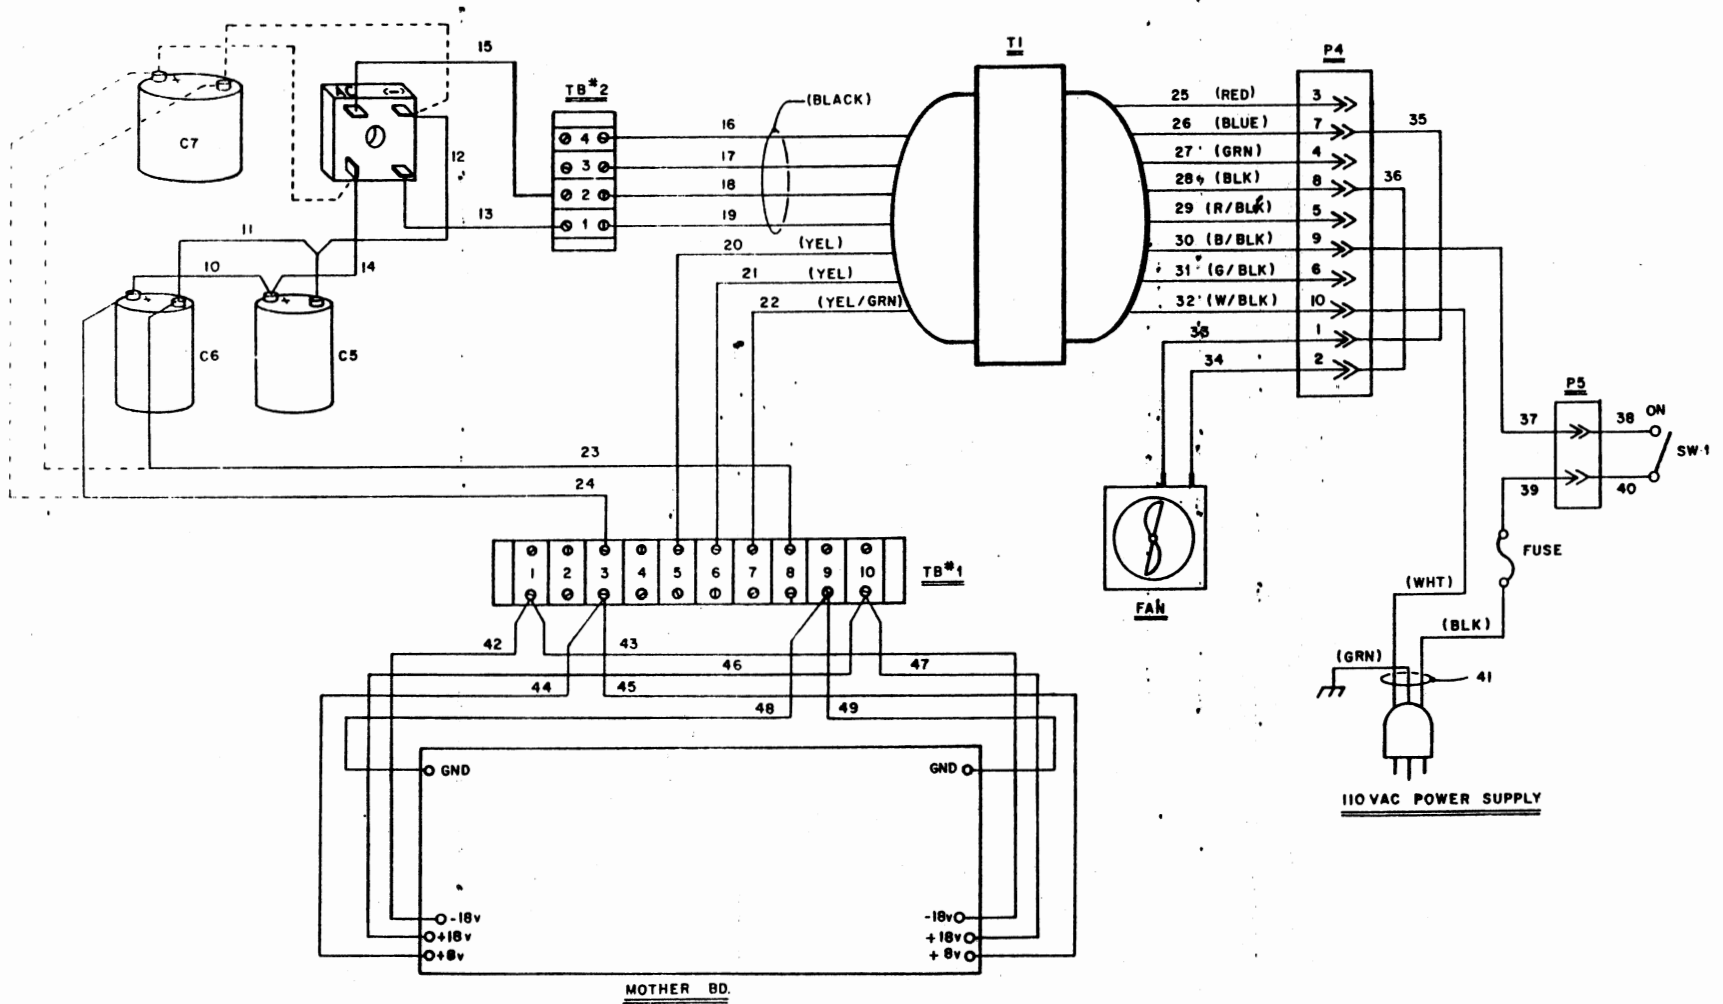
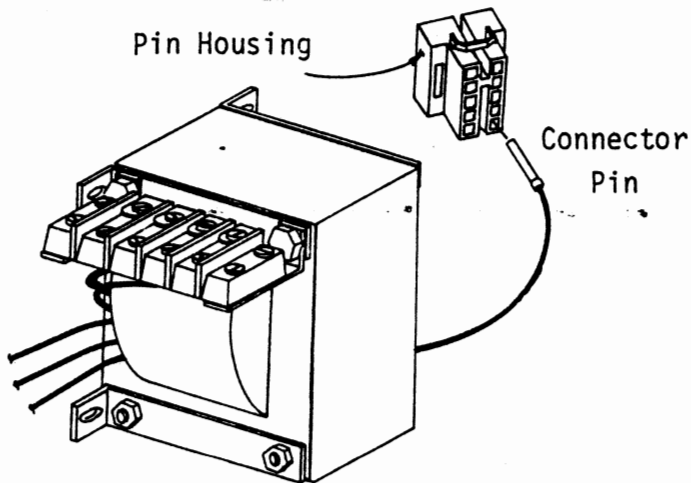

Figure 5-50. Wiring Diagram
Figure 5-58. Pin Housing Insertion
5-59. CAPACITOR WIRING (Figure 5-50)
3. Connect the wire from the "+" side of the capacitor to terminal #3 on the power supply board terminal block (TB1). (See wiring diagram, Figure 5-50.)
- ✓ 4. Connect the wire from the ground (-) side of the capacitor to terminal #8 of the terminal block (TB1). (See wiring diagram, Figure 5-50.)
4. Connect the wire from the "+" side of C5 to terminal #3 on the terminal block (TB1). (See wiring diagram, Figure 5-50.)
5. Connect the wire from the ground side of C5 to terminal #8 of the terminal block (TB1). (See wiring diagram, Figure 5-50.)
- ✓ 2. When all eight wires on the primary side of the transformer have pins attached, insert the pin housing (P4) as shown in Figure 5-58. Insert the pins in the following order (see wiring diagram, Figure 5-50):
2. Attach wires 13 and 15 from the bridge rectifier to terminals 1 and 2 of the terminal block (TB2). (See Wiring Diagram, Figure 5-50.)
2. Make sure the two 19-inch bridge rectifier wires, the 40-inch fuse wire (#39), and the 40-inch connector plug wire (#37) go under the fan as the back panel is mounted. Connect wire 14 from the bridge rectifier to the "+" side of the capacitor(s). Connect wire 12 from the bridge rectifier to the ground side of the capacitor(s). Make continuity checks (see wiring diagram, Figure 5-50).